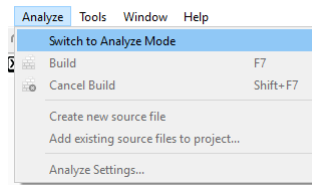

Figure 1: Switch to analyze mode.
- Open CodeXL and switch to analyze mode as shown in figure 1.